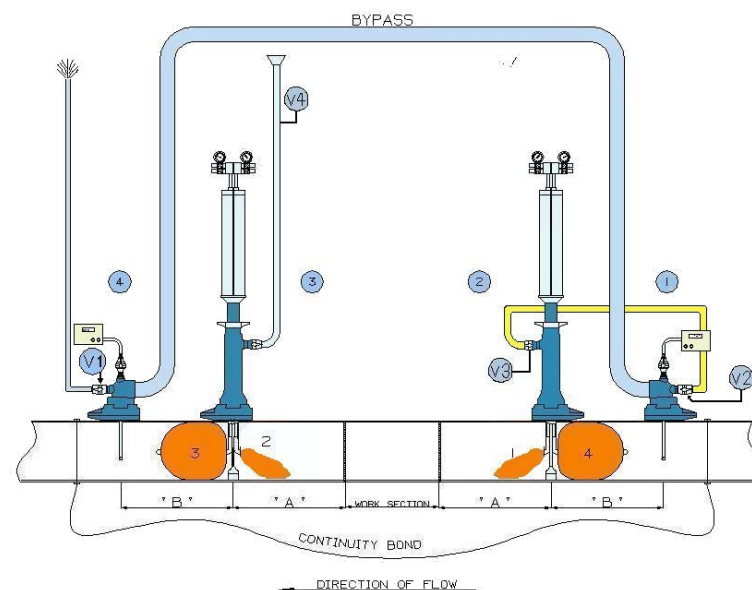

Figure 78– Purging with Rider – Secondary Bags Deflated
5. Close the vent V4 and deflate bag 2, followed by bag 1 see Figure 78